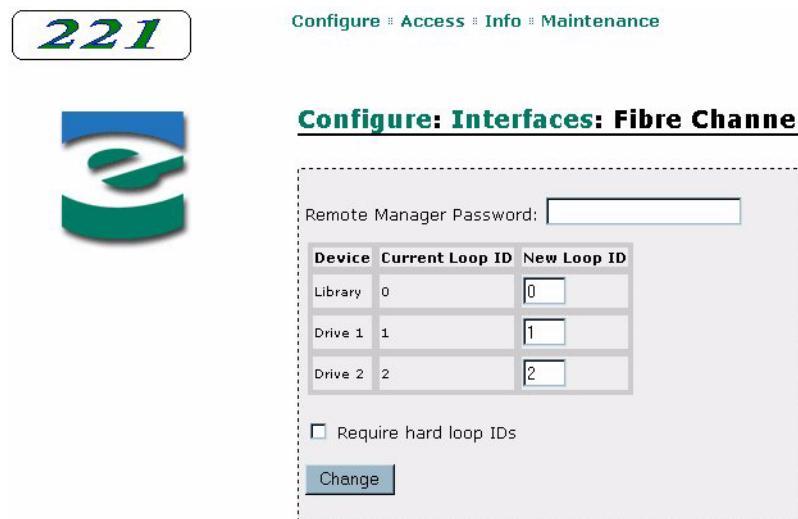

Figure 6-5 Remote management utility – Fibre Channel Interface Configuration page
3. Click on Configure the Fibre Channel interface. A page similar to Figure 6-5 appears.